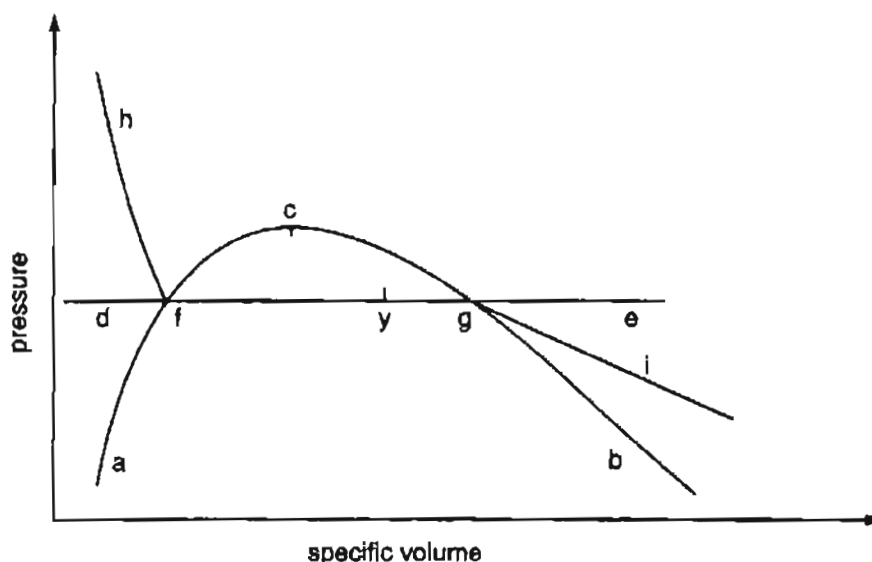

Figure P16.3
- *16.3 Figure P16.3 is a phase diagram for a pure compound. On a copy of the diagram place the name in the following list next to the associated letter in the diagram: